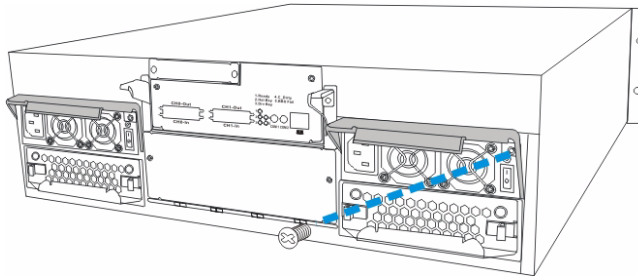

Fig. 6.16 Fastening the PSU Retention Screw
- It is recommended that the replacement procedure is completed in less than five (5) minutes to prevent the subsystem from overheating.
8. Insert the new PSU module into the subsystem. Make sure the ejection handle is in its down position so that the saddle notches on the lower edges of the handle can lock on to the edge metal brackets along the chassis inner walls. Push the PSU into the slot and pull the handle upward to secure the module. (See *Figure 6.16*)
9. Secure the PSU to the subsystem by inserting the retention screw to the PSU. (See *Figure 6.16*)